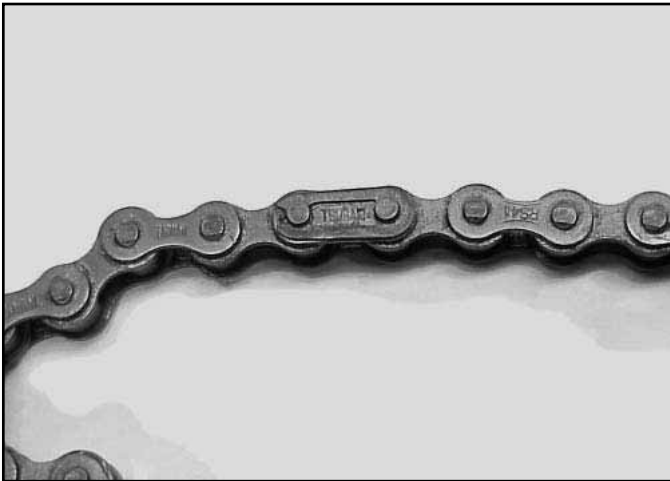

Fig 114
1. If you removed the master link from the chain, it must be assembled with the closed end of the master link going in the direction of rotation in forward gear (Fig. 114).